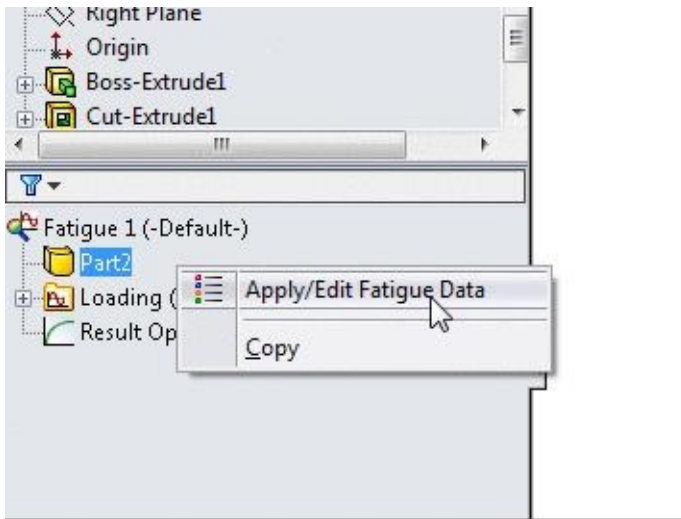
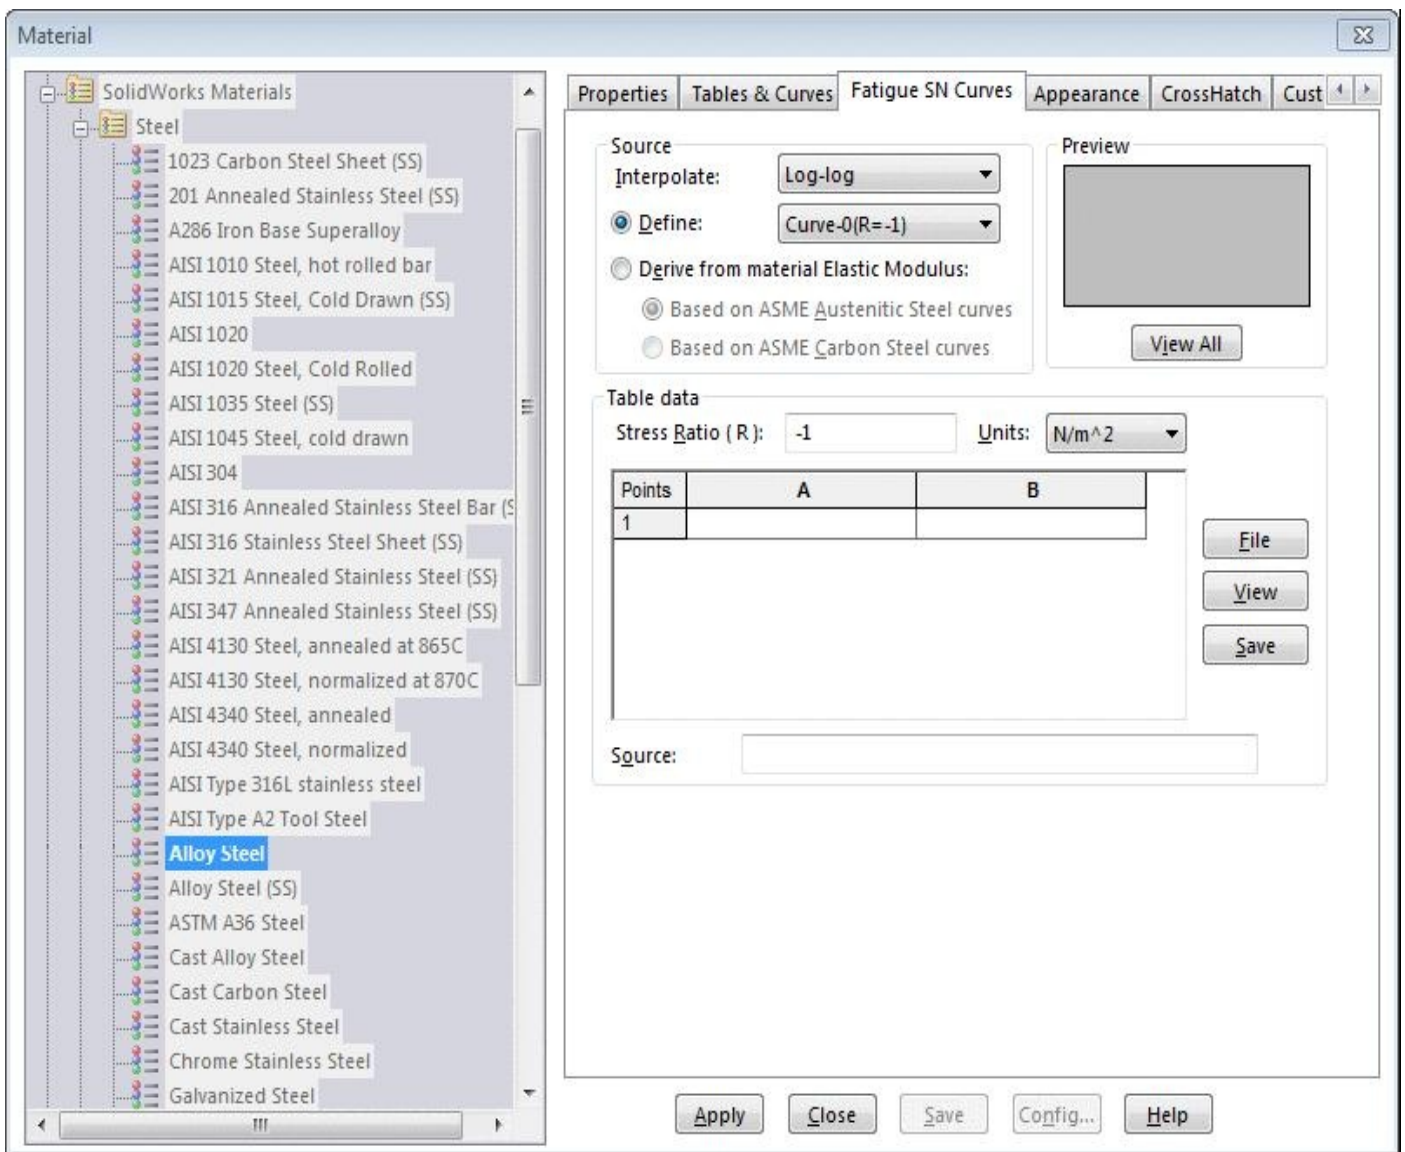

Figure-14. Applying fatigue data
Figure-15. Material dialog box with fatigue options
- Right-click on the name of the part and select the **Apply/Edit Fatigue Data** option; refer to Figure-14. The **Material** dialog box will be displayed with the **Fatigue SN Curves** tab activated; refer to Figure-15.